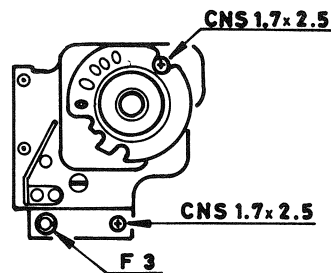

Fig. 4
- CNS1.7x2.5 Located under Shutter dial. Refer to Fig. 4.